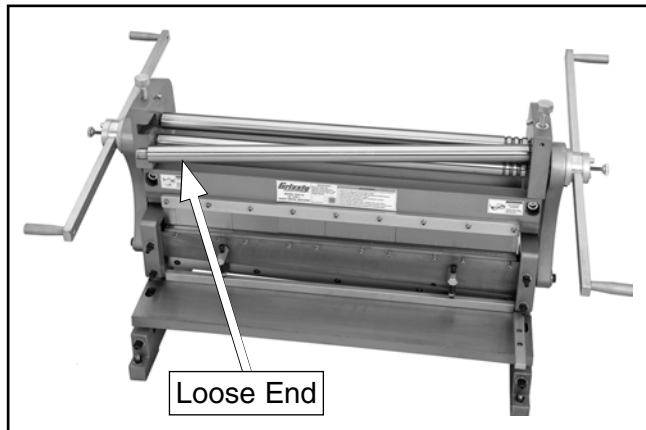

Figure 26. Top roller released (shown without a workpiece for photo clarity).
2. Protect your hands from sharp edges of workpiece, then grasp top roller and use moderate force to pull loose end out (see **Figure 26**).